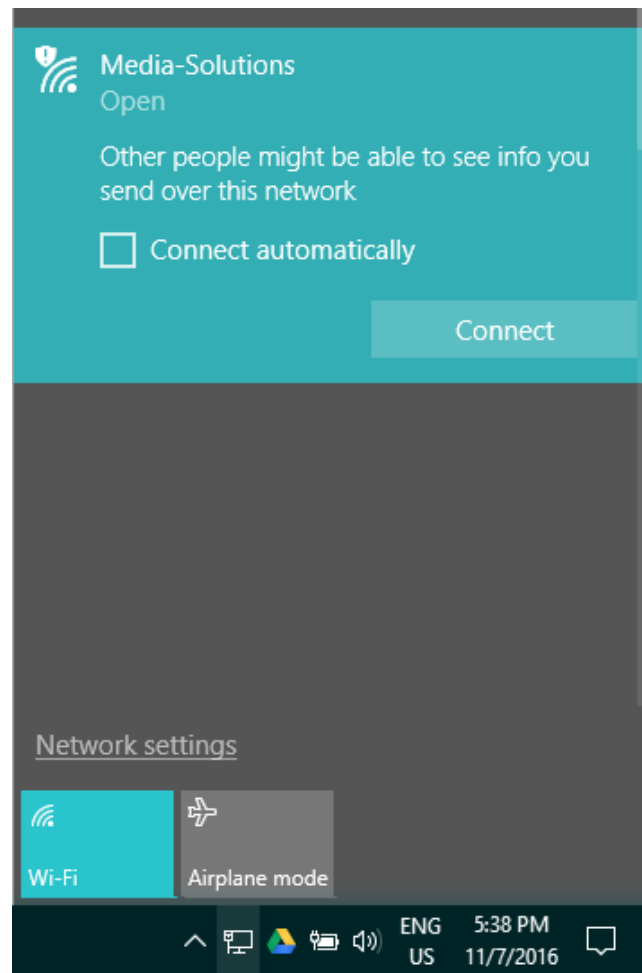

Figure 70: Connecting to the Media-Solutions Network
3. Select the "**Media-Solutions**" network from the list, and tap on the **Connect** button that appears on the screen (see Figure 70 below).